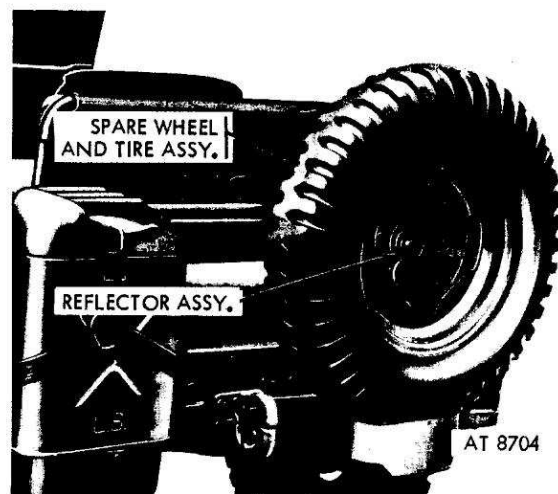

Figure 2-16. Remove obstructions from rear.
b. Remove the spare wheel and tire assembly and reflector assembly, plus any other obstructions from the rear of the vehicle as illustrated in figure 2-16.